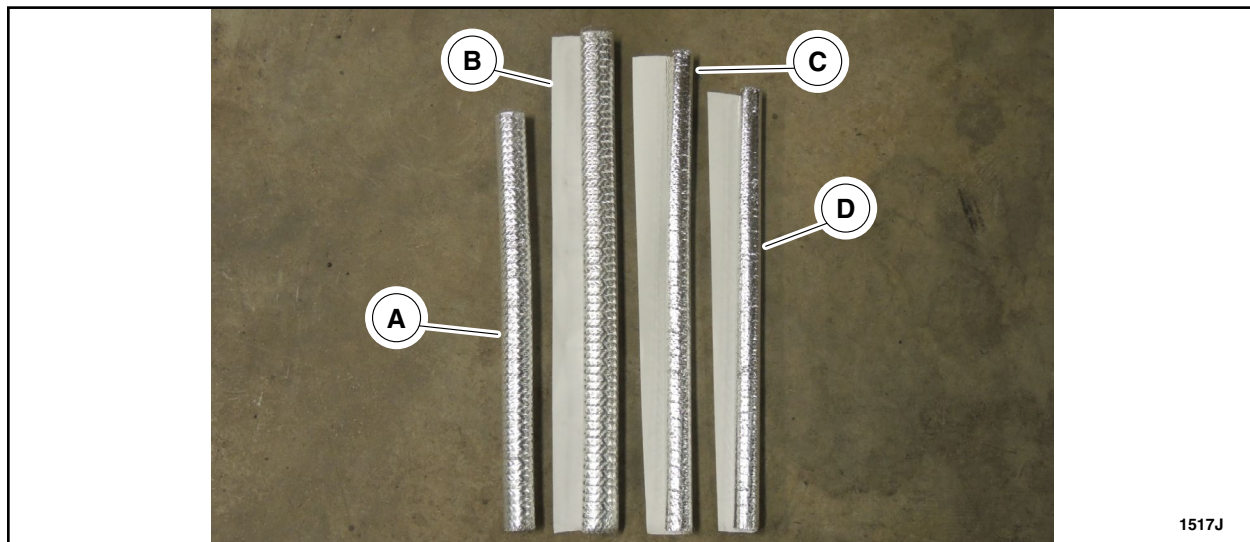

FIGURE 9
11. Install the thermal wraps onto the vapor lines above the rear sway bar. For steps 10b-10d, gradually slide the thermal wraps over the vapor lines, peeling back the protective film and folding the adhesive flap over to seal the wrap over the vapor line. See Figures 9 through 12.